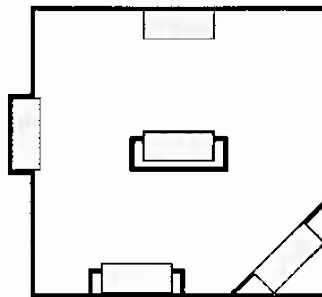

Figure 1
- Minimize modifications to existing construction. Refer to *Figure 1* for location suggestions.